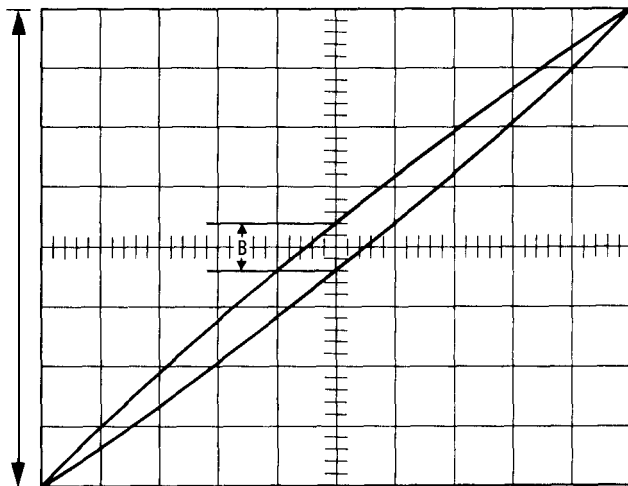

Figure 4-24. Lissajous Display
4. Set the oscilloscope's horizontal axis to sweep from an external input, dc coupled with no magnification. Set the vertical input to dc. Adjust the vertical and horizontal sensitivity y to form a Lissajous pattern which fills the display as shown in Figure 4-24.